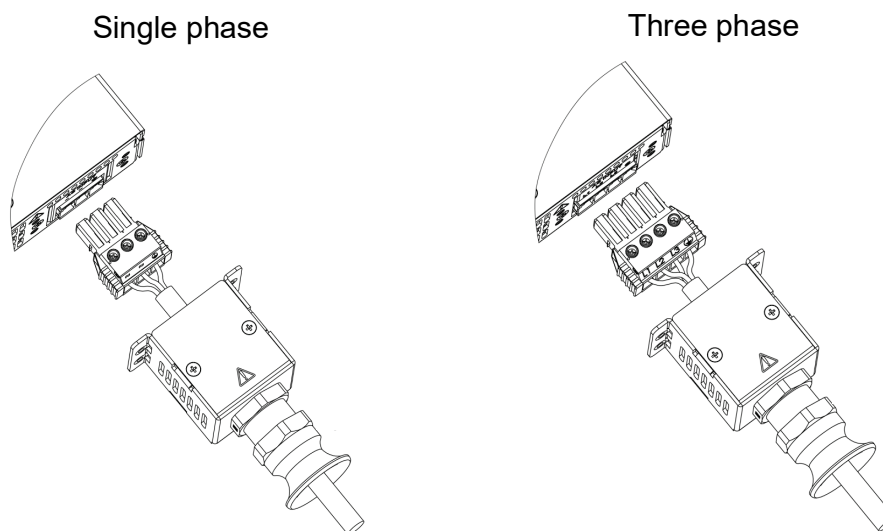

Figure 7-5: AC Wires fixed to the AC Connector
7. Insert the AC wires into the AC input connector as shown in **Figure 7-5**.